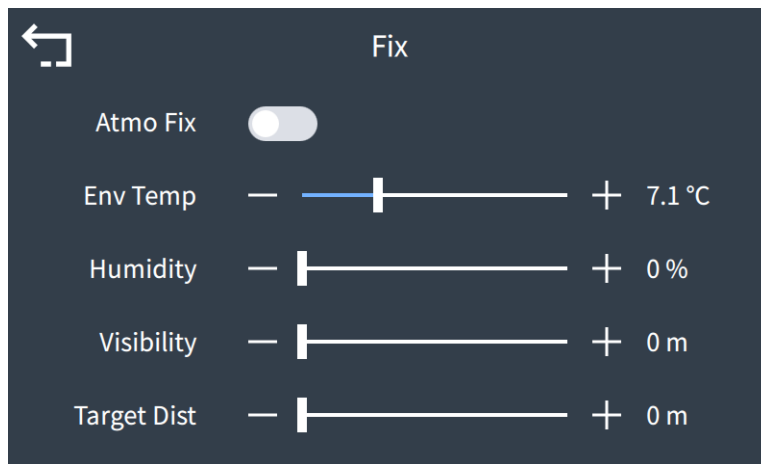

Figure 4.19 Temperature correction
Step 3: Touch or press the physical button to switch to "Temperature Correction" and press the physical "OK" button to enter the temperature correction interface (as shown in Figure 4.19).